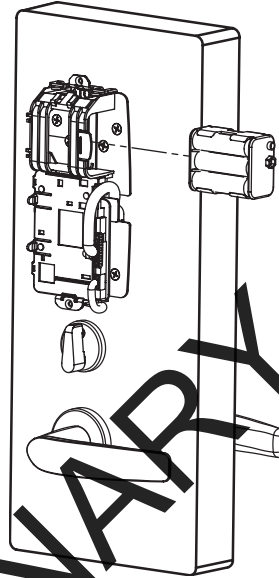

Fig. 11A
1. Place (6) "AA" batteries into the compartment being careful to align polarity (- & +) properly.
2. Insert battery pack and click into place, making sure polarity terminals on the battery pack are correctly oriented (Fig. 11A).